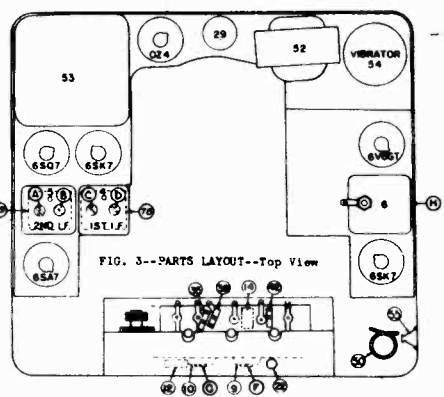

FIG. 3--PARTS LAYOUT--Top View
- (f) Adjust the I-F trimmers A, B, C, D (Fig. 3) in the order mentioned until maximum output is obtained.